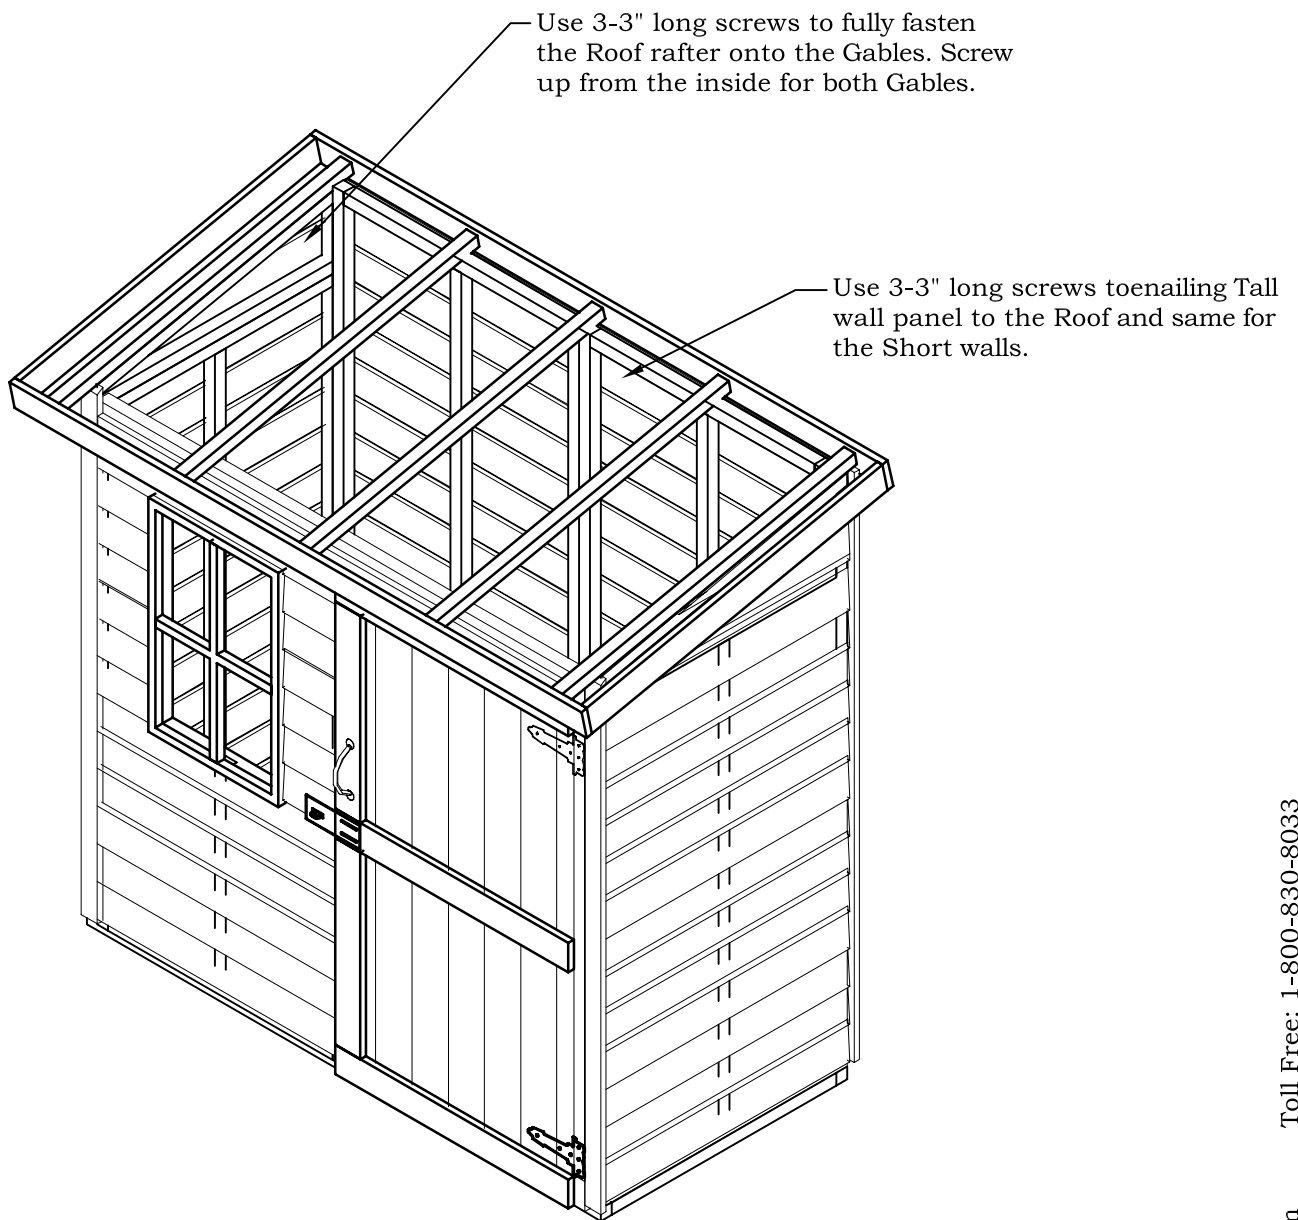

FIGURE S15
- Using 3-3" screws and by drilling through the bottom of the gable frame into the roof frame affix both gable panels to the roof panel. Take another couple of screws and toenail the roof to the short walls and long wall panels. See Fig. S15 for details.
- Full Roof system not shown for clarity in Fig. S15. Only the Roof rafters are shown.